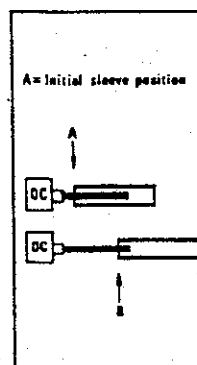

Fig. 8
- Enter the transducer tube into position A of figure 8.
- Pull out tube to rated measuring distance (position B of figure 8)
Adjusted values: Tube in position A, figure 8 = 0 mA
Tube in position B, figure 8 = +20 mA
Adjusted values: Tube in position A, figure 8 = +20 mA
Tube in position B, figure 8 = 0 mA